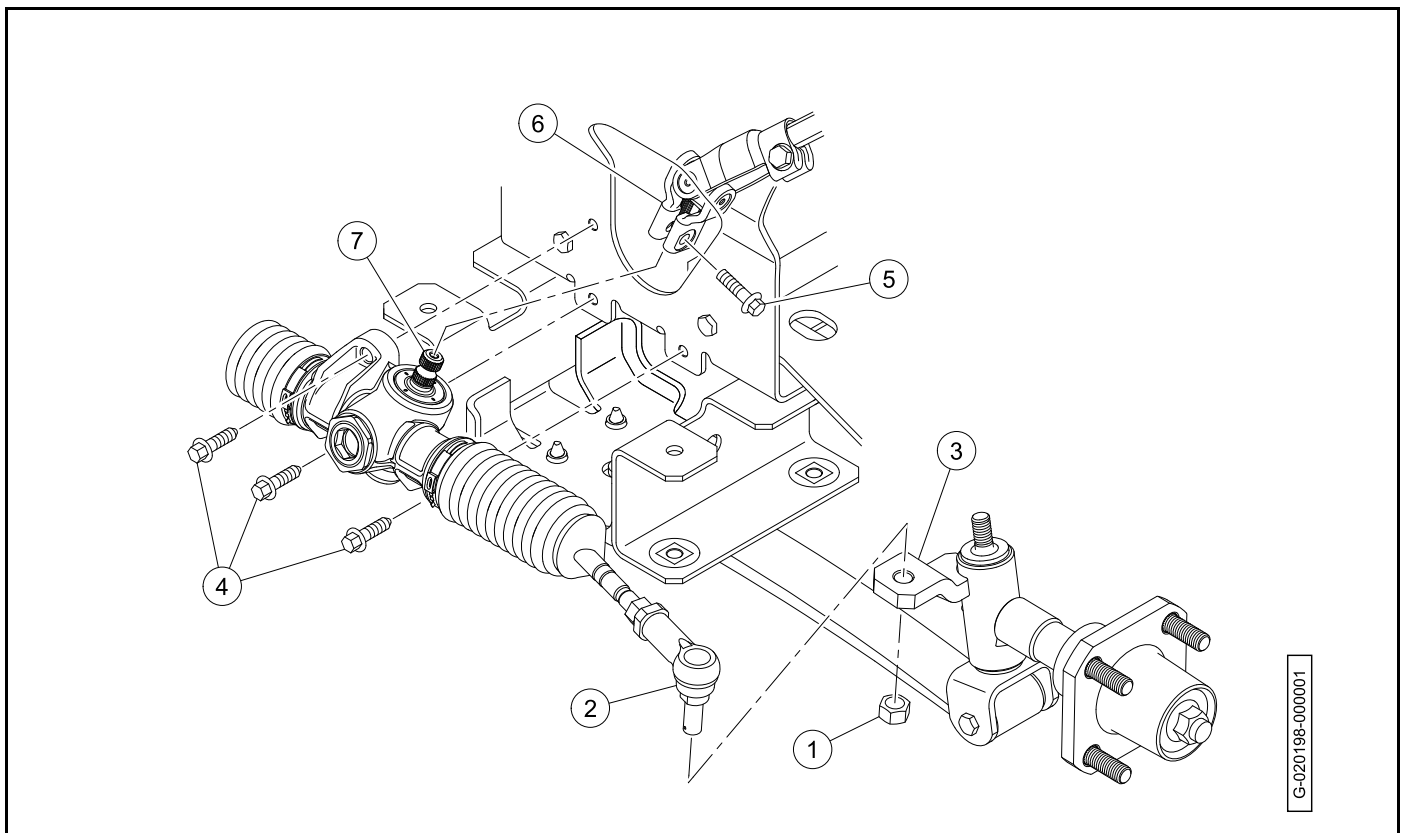

Figure 7-5
4. Remove the tie rod end retaining nuts (1) (**Figure 7-5, Page 7-5**).